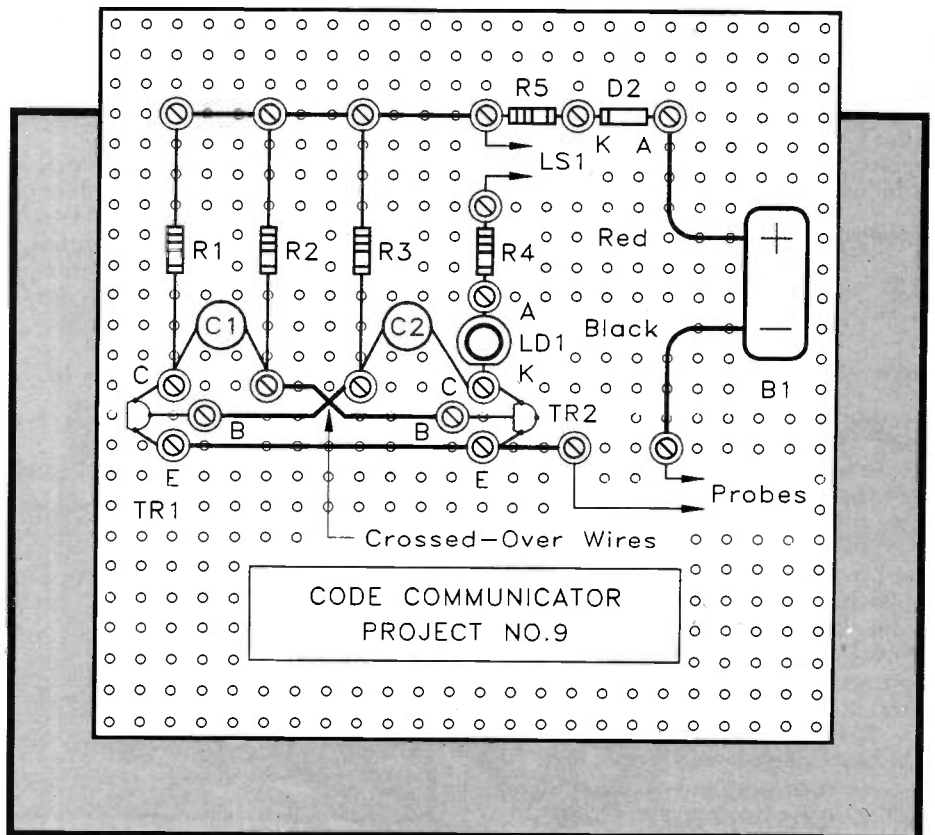

Figure 2. The component guide-sheet for the Morse Communicator.
1. Cut out the component guide-sheet provided with the kit (which is a full-size copy of Figure 2), and glue it to the top of the plastic board. Paper glue or gum should be okay. Do not soak the paper with glue, a few small 'dabs' will do.